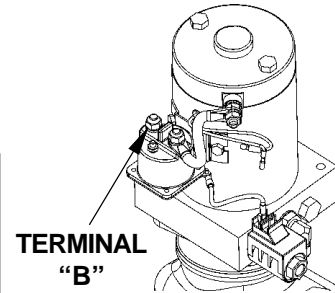

FIG. 40-1
1. Use voltmeter to verify that power is being supplied to Solenoid Terminal "B". Recharge the battery if voltmeter indicates less than 12.6 Volts (FIG. 40-1).